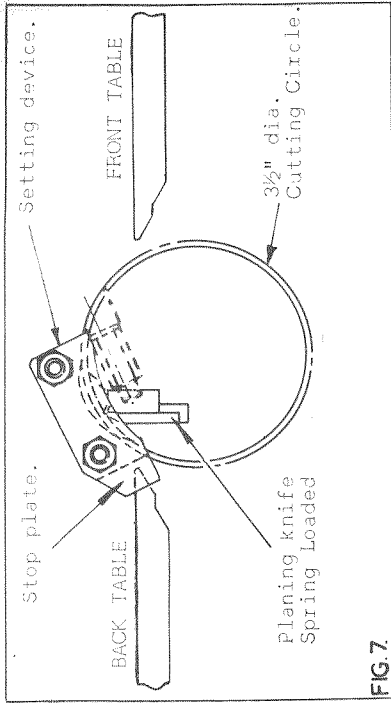

FIG. 7.
2. Turn the cutterblock to approximately the position shown in Fig. 7 and slacken the securing screws until the knife is just free of the cutterblock. Care should be taken when loosening the last screw as the knives are spring loaded.
3. To re-set the knives, the cutterblock should be in approximately the position shown in Fig. 7. Place the knife in the slot making sure that all faces are clean and the clamping bar free from burrs. Press the knife into the cutterblock with the setting device in Fig. 7 until the four predominant pads rest on the outer surface of the cutterblock and the end stop plate is pressed against the rebate side of the back planing table. Position the knife so that its end butts against the stop plate so as to line up the tip of the knife with the edge of the back table.